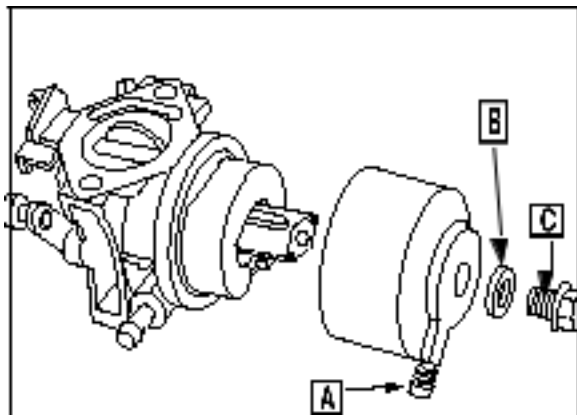

Fig. 95
Remove fuel bowl mounting screw (C) and washer (B). Remove the fuel bowl ([A] Fig. 95).